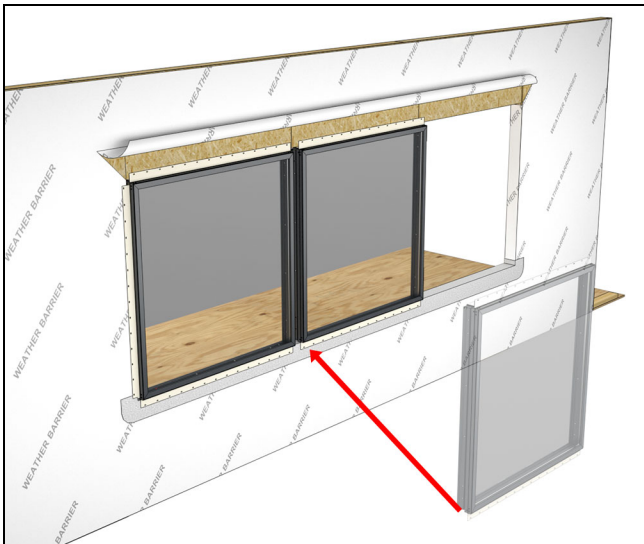
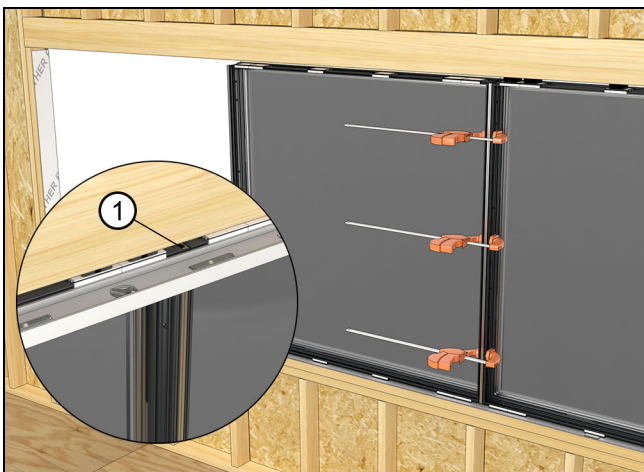

Figure 5
Figure 6
1. Set the next unit close to the A1 unit. Clamp the two units together making sure the windows are flush to one another on all planes (interior/exterior and top and bottom). See Figure 5 and Figure 6.